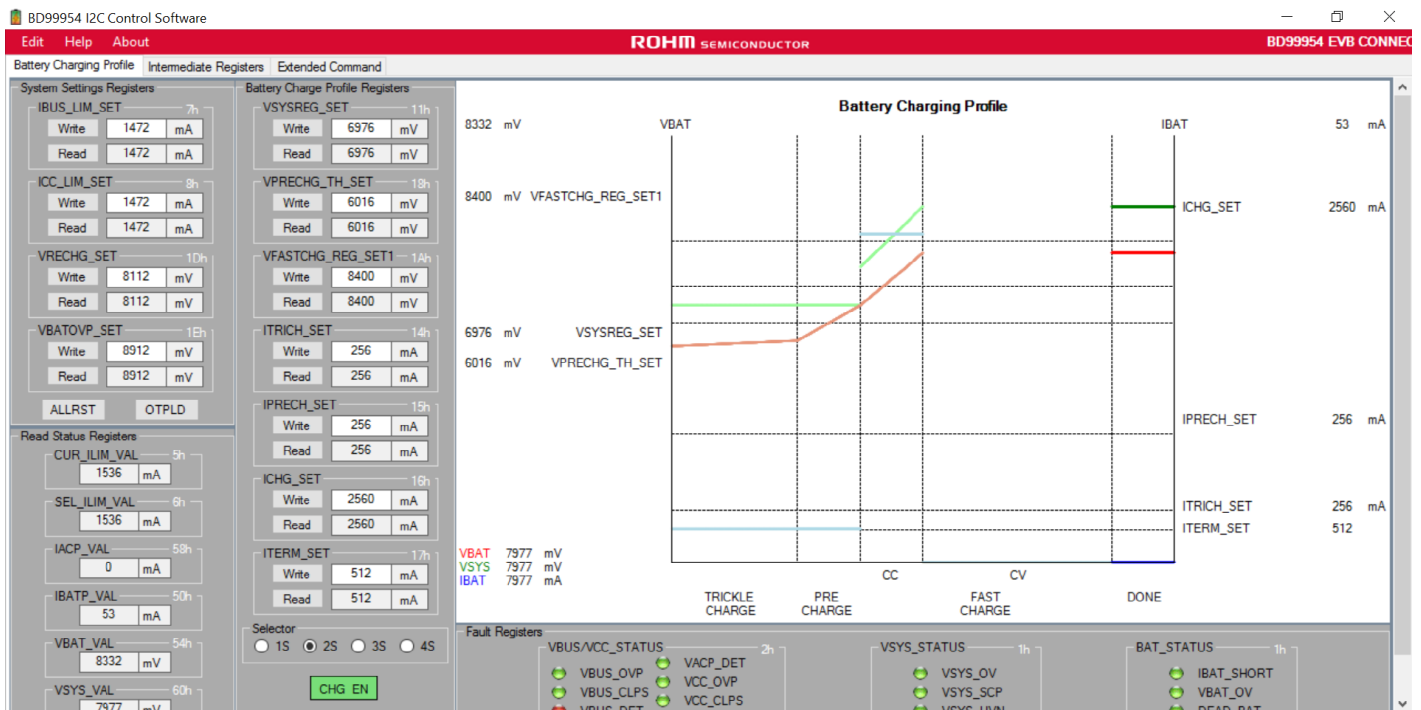

Figure 28. Done
12. In Done state, the battery stops charging and the output voltage VSYS is 15% above the battery voltage. (Refer Figure 28)